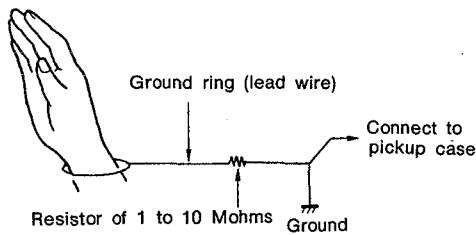

Fig. 11
(2) Handling the unit mechanism (Fig. 11)
When handling the pickup mechanism and the unit mechanism, use a ground ring such as the one illustrated in Fig. 11. (A ground ring can be constructed using ordinary lead wire.)